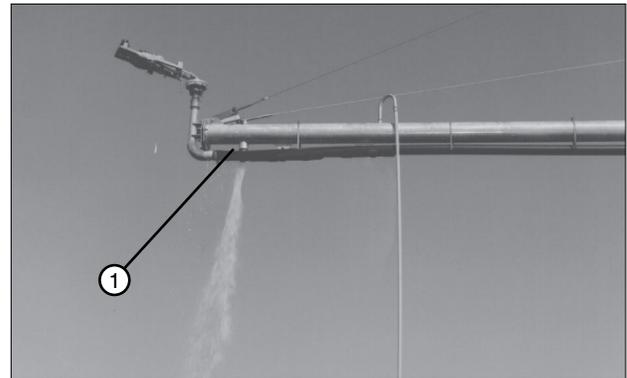

Figure 73-1 1. Overhang Drain
4. Remove plugs from the overhang drain. See figure 73-1.